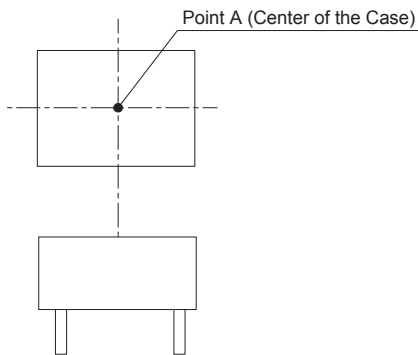

Fig.7.1 Temperature Measuring Point on the case (Top View)
- Please have sufficient ventilation to keep the temperature of point A in Fig.7.1 at Table7.1 or below. Please also make sure that the ambient temperature does not exceed 85°C.